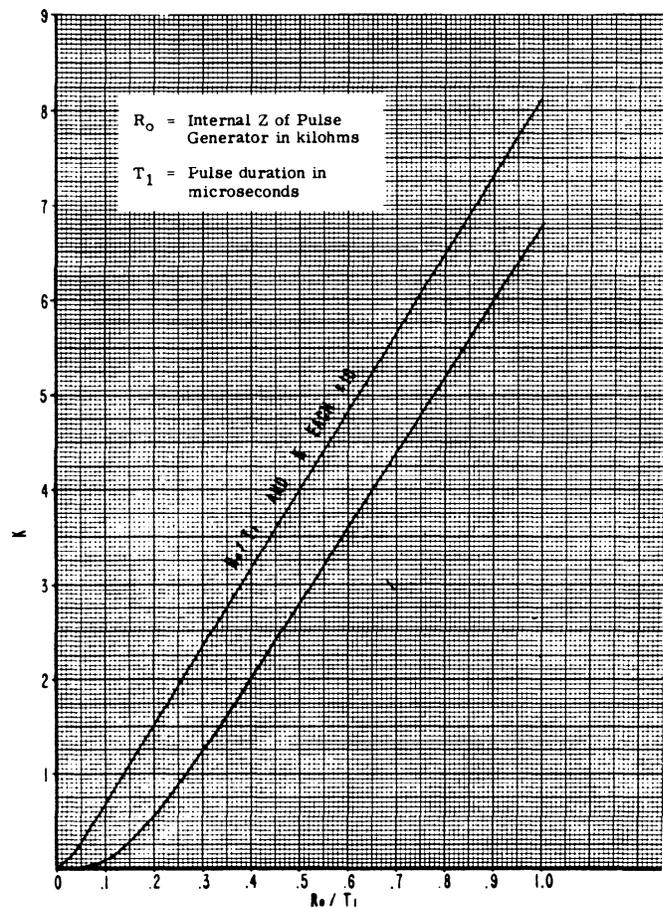

Figure 2-5. Graph used in Calculation of Pulse Voltages
- $K$  is a factor which is a function of the source impedance of the pulse generator and of  $t_1$ , and is found in the graph of Figure 2-5.
$K$  can be found by use of the curve in Figure 2-5 when the impedance of the pulse generator  $R_0$  in kilohms and the duration of the positive portion of the pulse  $t_1$  in microseconds are known.
For the case of a 10 microsecond negative pulse and a pulse repetition frequency of 1000 pulses per second,  $t_1$  would be 990 microseconds and  $t_2$  would equal 10 microseconds. Thus,  $R_0/t_1$  would be approximately 0, and therefore (from Figure 2-5)  $K$  would also be approximately 0. The multiplying factor would then be